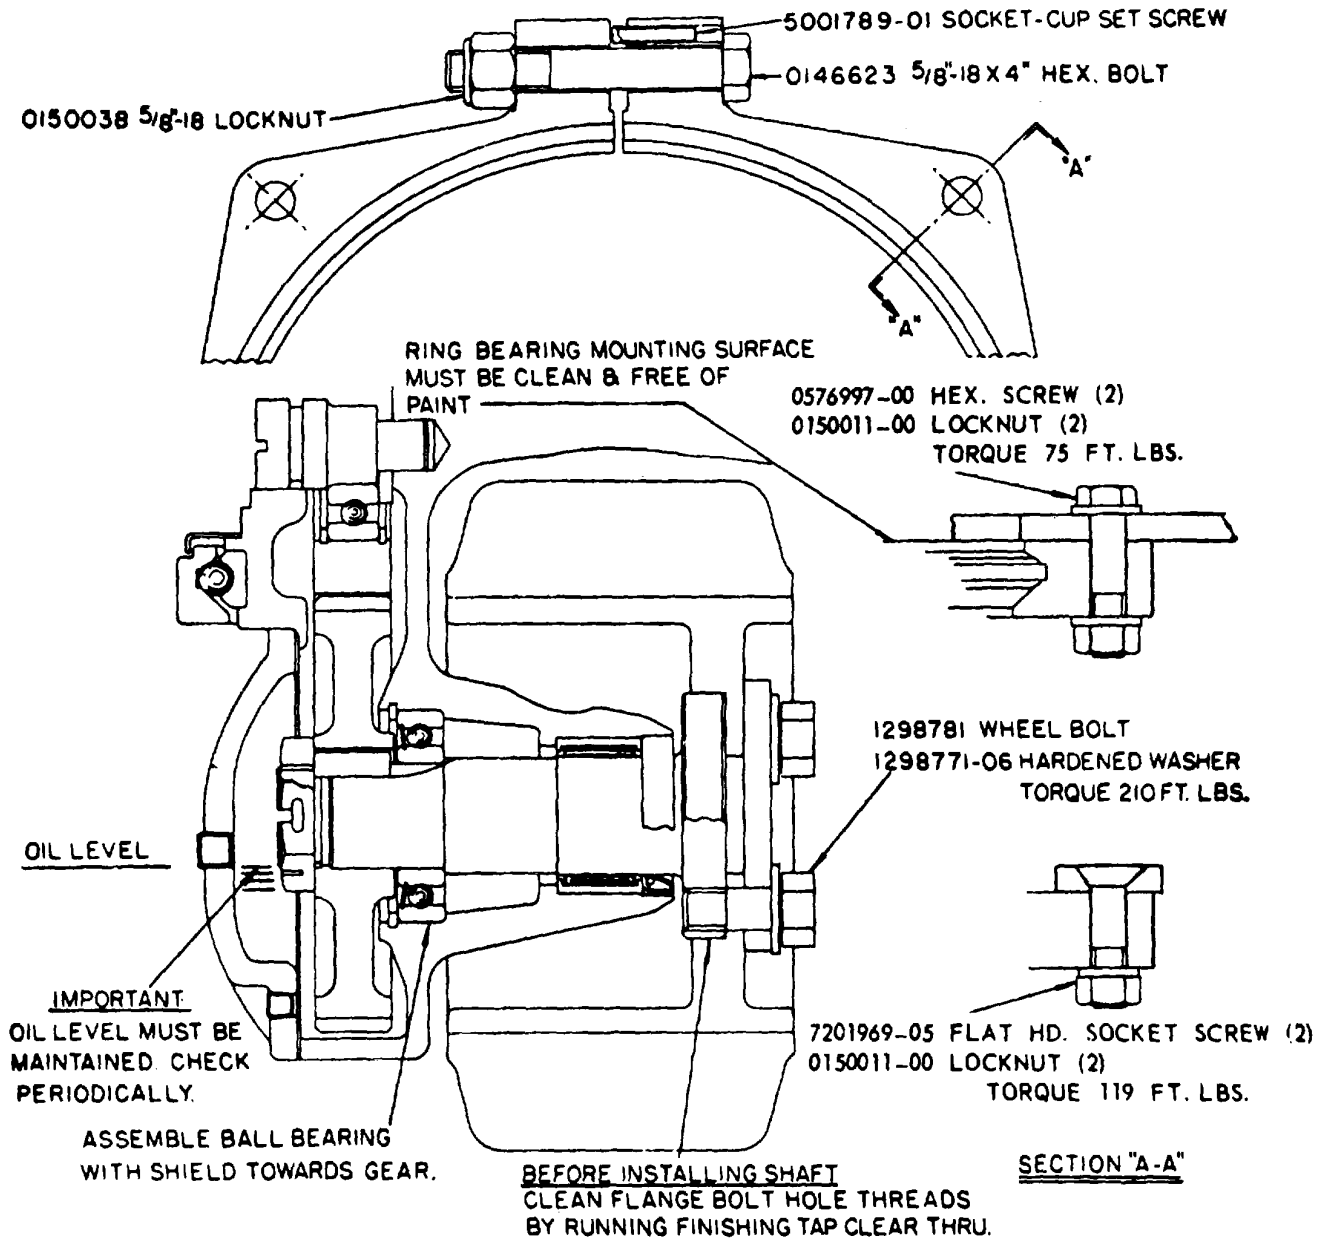

Figure 11 - Drive Unit Ring Gear Adjustment
- e. When adjusting the ring bearing it is suggested all instructions be thoroughly read and followed as shown in Figure 11.
- f. Take particular caution and refer to Fig 11, if drive wheel shaft or bearings are to be replaced